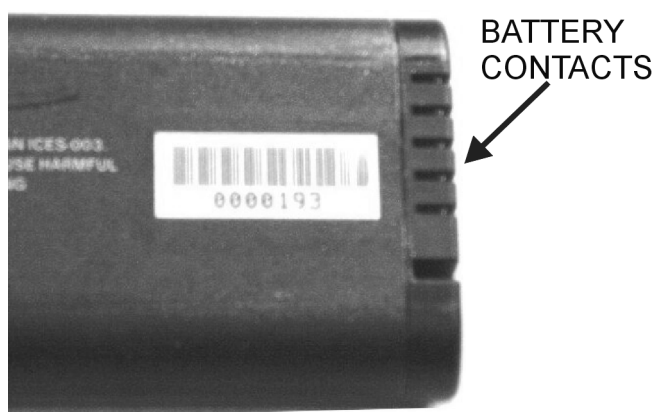

Figure 4-4. Battery Contacts
5. Replacement is the opposite of removal. Note the orientation of the battery contacts, and be sure to insert the new battery with the contacts facing the bottom of the instrument (Figure 4-4).